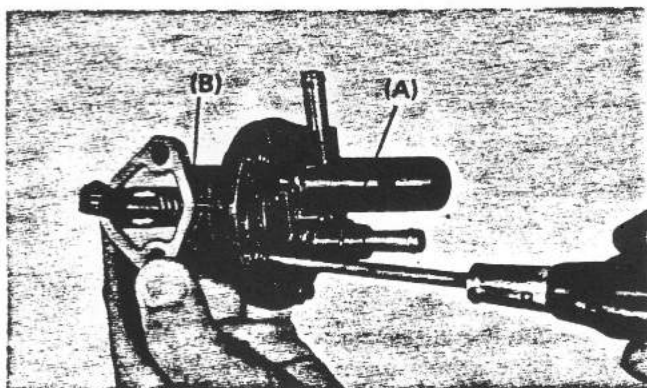

Fig. 171
- d. Check the rock arm bearings for excessive play. (Fig. 171)